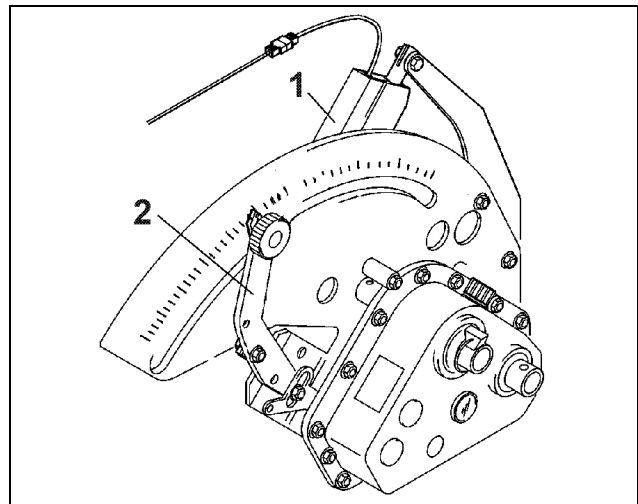

Fig. 21
- the gearbox setting lever (Fig. 21/2) is manually adjusted. The higher the scale figure is, the bigger the seed rate will be.
- the setting motor (Fig. 21/1) adjusts the gearbox setting lever I (Fig. 21/2) (option).